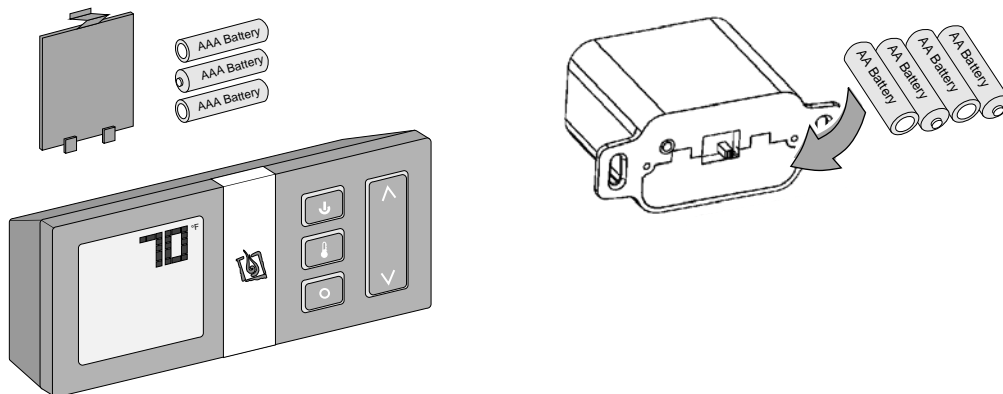

Figure 13
Install four AA batteries into the battery holder (see **Figure 13** below). These batteries act as a power backup in case the household (AC) current goes out.